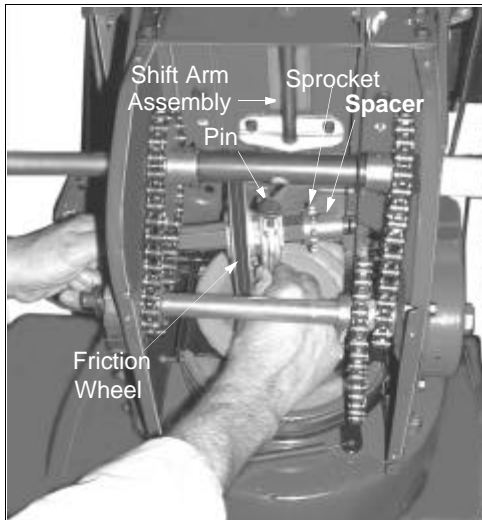

Figure 25
the friction wheel assembly and hold assembly in position. See Figure 25.
12. Insert the hex shaft through the sprocket and the spacer. See Figure 25. Make certain that the chain engages both the large and the small sprocket.